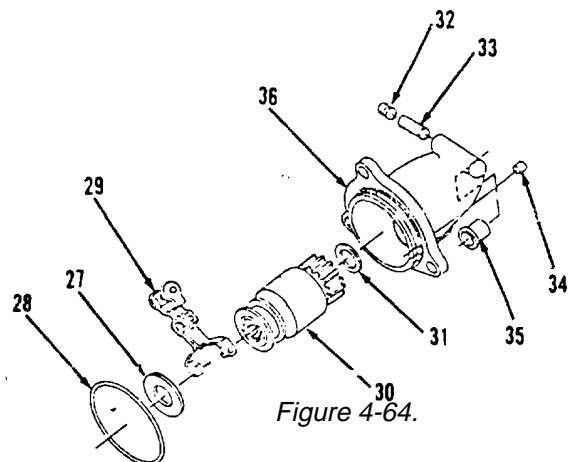

Figure 4-64.
12. Install armature (37) into frame (63).
13. Using an arbor press, install bearing (35) into housing (36, Figure 4-64).
14. Install plug (34).
15. Dip wick (33) in engine oil SAE 20 and install in housing (36).
16. Install plug (32).
17. Install washer (31), drive (30) and yoke (29).
18. Install new preformed packing (28) and washer (27).